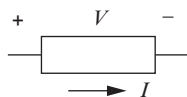

Figure B.1
p0025 Just as force times velocity is power in mechanical systems, voltage times current is power in electrical systems. The unit of power is the Watt (W), and  $1 \text{ W} = 1 \text{ A} \times 1 \text{ V}$ . For example, Figure B.1 shows a generic circuit element (perhaps a battery, resistor, capacitor, diode, etc.). The voltage  $V$  across the element is defined to be positive if the potential is higher at the end of the element labeled +; otherwise  $V$  is negative. The current  $I$  through the element is defined to be positive if it is in the direction of the arrow, from + to -; otherwise  $I$  is negative.1 With